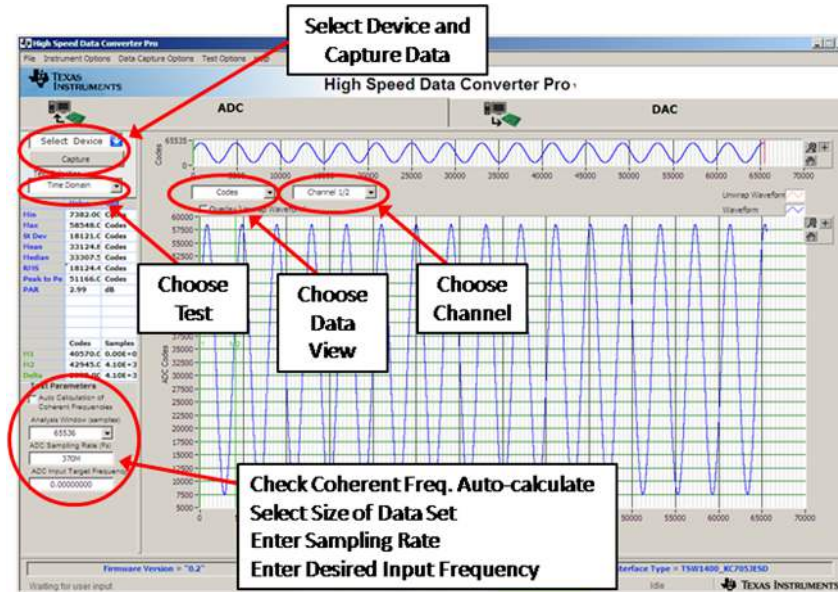

Figure 3. HSDC Pro GUI Main Panel
1. Open High Speed Data Converter Pro from the Start Menu → All Programs → Texas Instruments → High Speed Data Converter Pro. **Figure 3** shows the GUI main page.